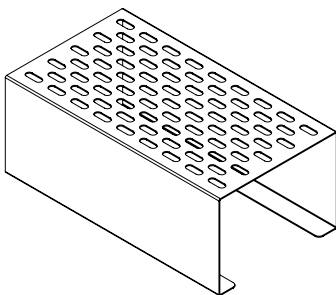

Figure 14
- (1) Fixed position metal shelf, see Figure 14.